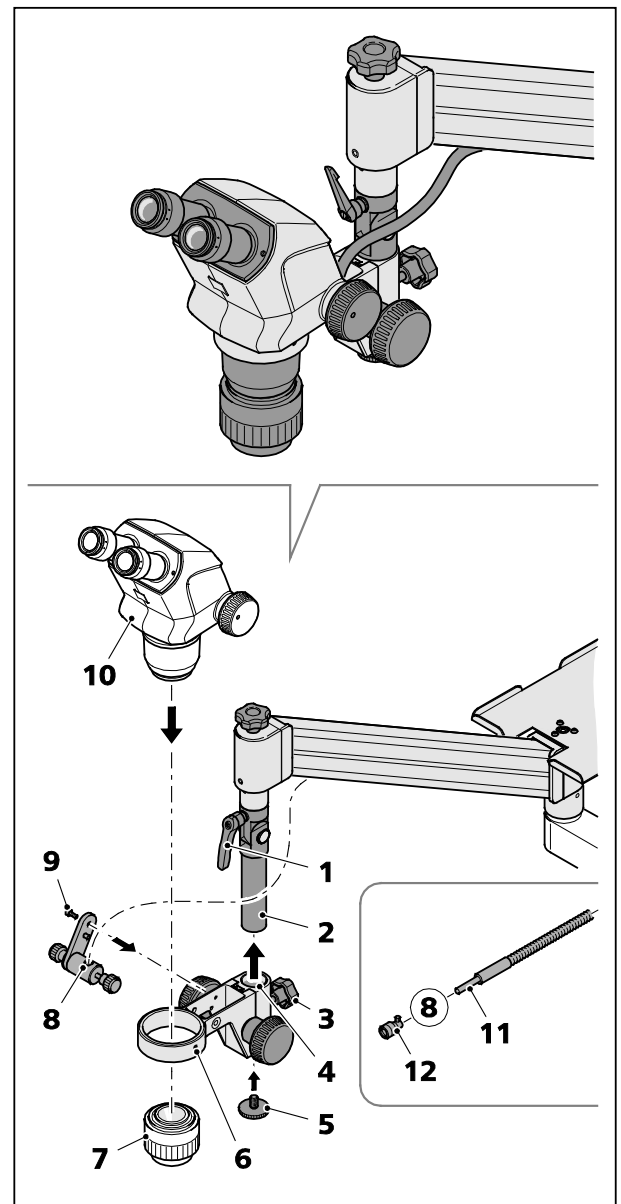

Fig. 10 Installing Stemi mount and microscope body
- Unscrew end piece (Fig. 10/5) from the underside of the tilting head (Fig. 10/2).
- Put Stemi mount with drive (Fig. 10/4) onto tilting head (Fig. 10/2).
The angular position of the clamping lever (Fig. 10/1) on the tilting head can be set to a position that is favorable for the clamping procedure. To this end, pull the lever until it comes out of the click stop and turn it into the desired angular position. After releasing the lever, it will automatically snap in again by a spring mechanism.
- Turn the star knob (Fig. 10/3) to clamp the Stemi mount to the tilting head in the desired position.
- To secure the Stemi mount against slipping off, tightly screw in the end piece (Fig. 10/5) again at the underside of the tilting head.
- Screw on the light guide holder (Fig. 10/8) onto the Stemi mount with screw SW 3 (Fig. 10/9).
- Insert the end ferrule of the light guide (Fig. 10/11) through the hole in the light guide holder (Fig. 10/8) and secure it with the cap screw to the metal collar (diameter 10 mm).
- Push the focusing attachment (Fig. 10/12) onto the optical fiber as far as it will go and screw it tight.
- Insert the microscope body (Fig. 10/10) without front lens system in the Stemi mount (Fig. 10/4) and fasten it by means of clamping screw M6 x 6 mm (Allen key 3 mm) (Fig. 10/6).
- If used, screw the front lens system (Fig. 10/7) onto the bottom of the stereomicroscope. If the Stemi 508 is used, first unscrew the dust protection glass from the bottom of the stereo microscope.